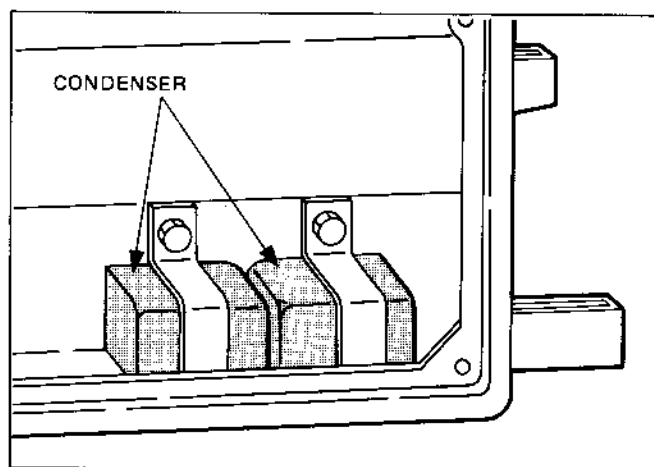

Fig. 11-2
- If an instrument (QC-meter or C-meter) for measuring capacity of condenser is available, check the capacity of condenser. (See Fig. 11-2.)